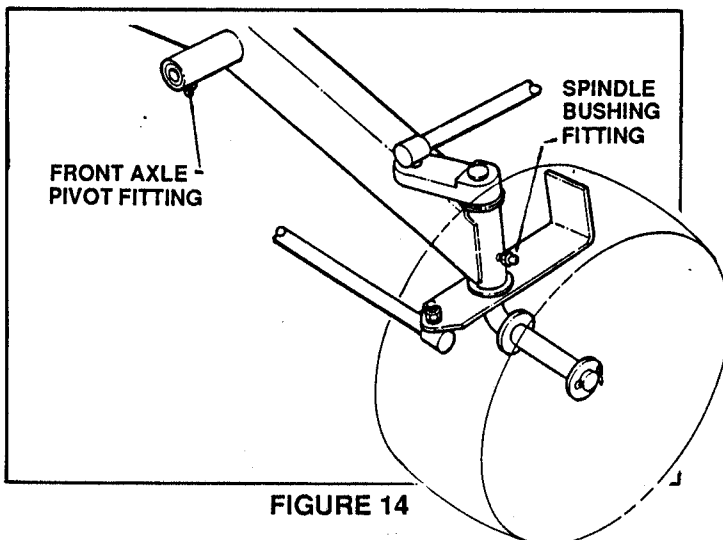

FIGURE 14
- FRONT AXLE PIVOT & SPINDLE BUSHINGS: Lubricate the center pivot fitting on underside of the front axle and each spindle fitting located on rear of front axle (toward operator). See Figure 14. (Continued on next page)